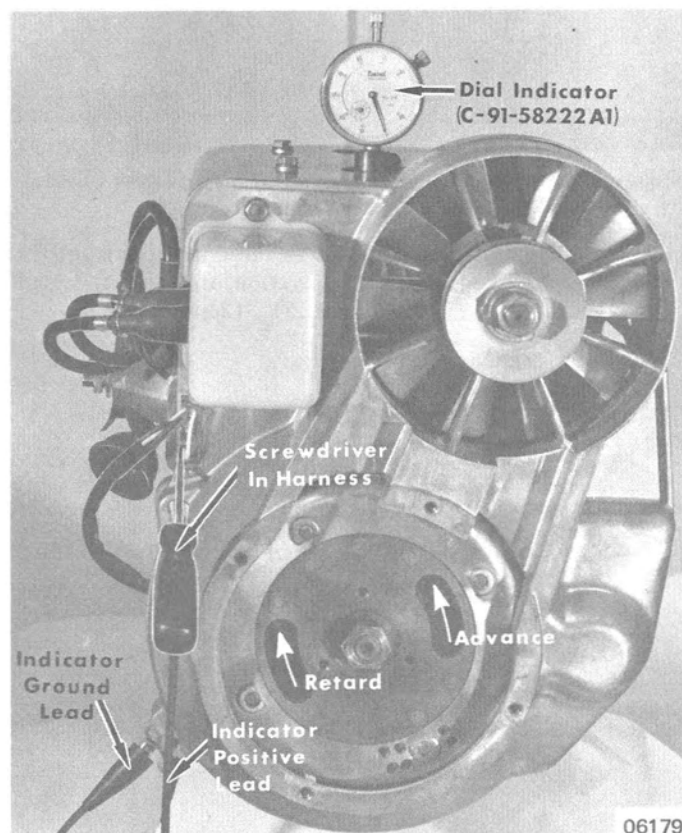

Figure 2. Timing Adjustment
5. Connect suitable meter, buzzer or light to engine ground and No. 1 (white) primary ignition coil wire. (Figure 2)
*NOTE: Connections to white or red primary ignition coil wire can be made by inserting a small bladed screwdriver into engine harness connector (Figure 2) or by disconnecting red and white secondary ignition coil wires and making connection to red or white wire from engine harness connector.*